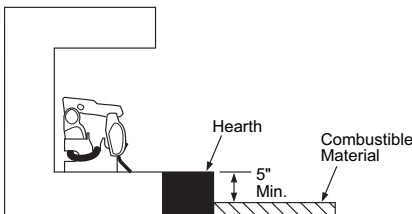

Figure 8 - Minimum Fireplace Clearances Above Combustible Flooring
- B. If combustible materials are less than 14" to the fireplace, you must install appliance at least 5" above the combustible flooring (see Figure 8).